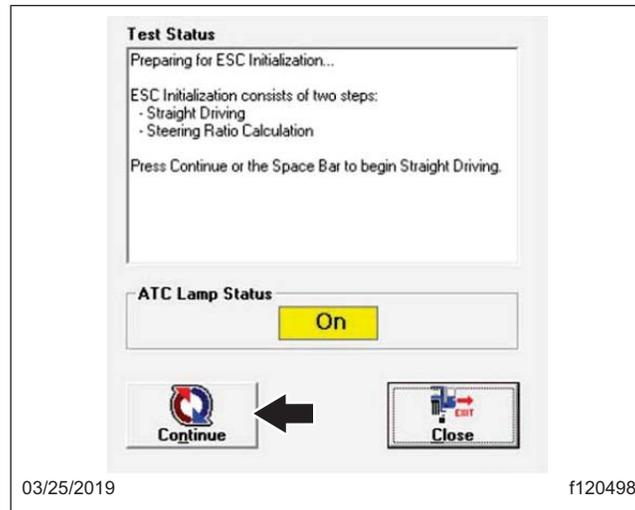

Fig. 8, Test Status, ESC Initialization
4. From the pop-up message that appears, press the space bar or select 'Continue' when ready to proceed. See Fig. 8. The automatic traction control (ATC) lamp will start blinking to inform the driver that the ECU is in learning mode.
5. Carefully follow the instructions that appear in the pop-up message. See Fig. 8. The ESC initialization procedure requires the vehicle to be driven. Once the ESC initialization begins, the messages will automatically change as the requirements are met. DO NOT select the 'continue' button again as it may cause the process to fail.